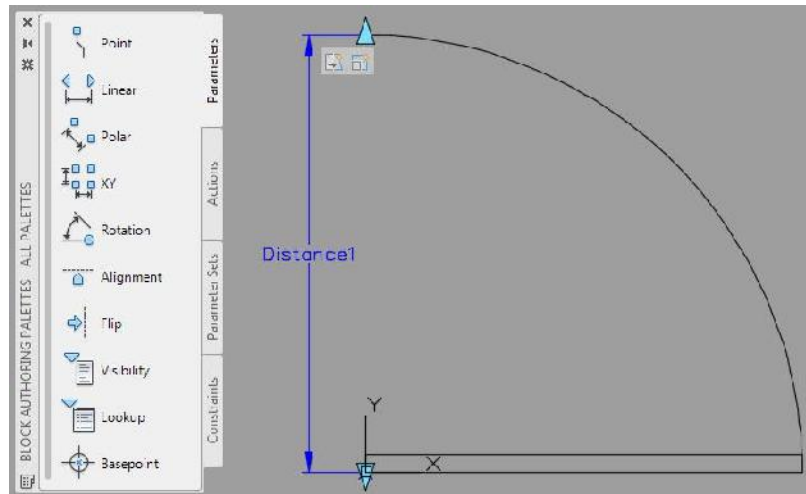

FIGURE 9.43: The Linear parameter is placed.
5. Move the cursor to position the dimension symbol a little to the left of the door block, and then click to place it (see Figure 9.43).